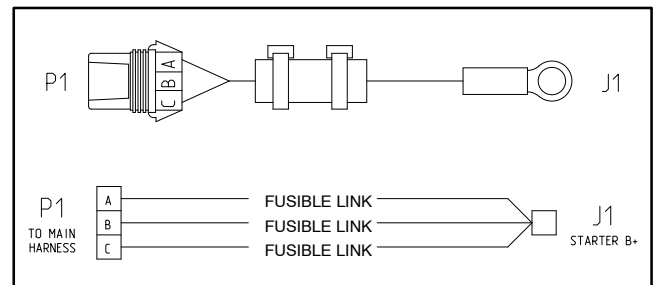

Figure 24
5. Use a multimeter to make sure that continuity (zero ohms) exists between each terminal pin in connector P1 and connector J1 at the starter (Fig. 24). If any of the fusible links are open (infinite ohms), replace the fusible link harness.